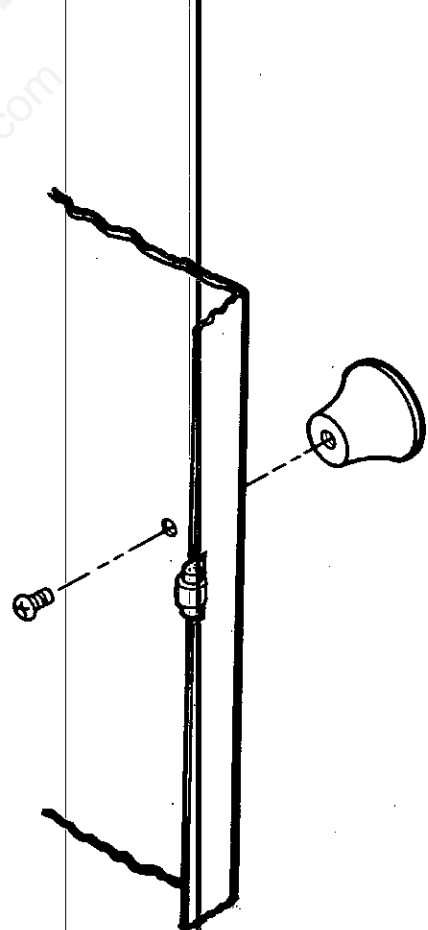

FIG. 12
2. Place door knob on outside of cabinet door. Then place machine screw through hole and into door knob and tighten (Fig. 12).